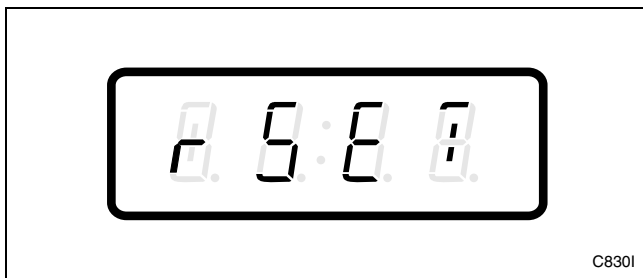

Figure 219
2. Press the DELICATES (+) or the COLD (-) keypad until "rSET" appears. Refer to *Figure 219*.